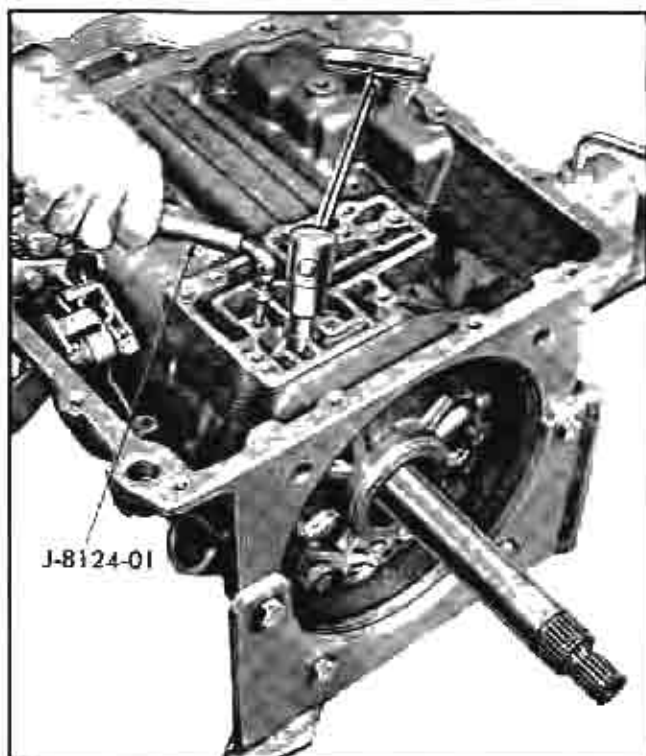

Fig. 160 Applying Air to Position Case Center Support
6. Apply air pressure in neutral clutch apply hole (Fig. 160) with blow-gun J-8124-01 to position case center support against snap ring. With air pressure applied, tighten pump locking screw to 25 lb. ft. torque. Then tighten pump to case support screws to 25 lb. ft. torque. **NOTE:** Pump locking screw must be tightened first to draw pump tightly against case to ensure there is no leak between pump and case.